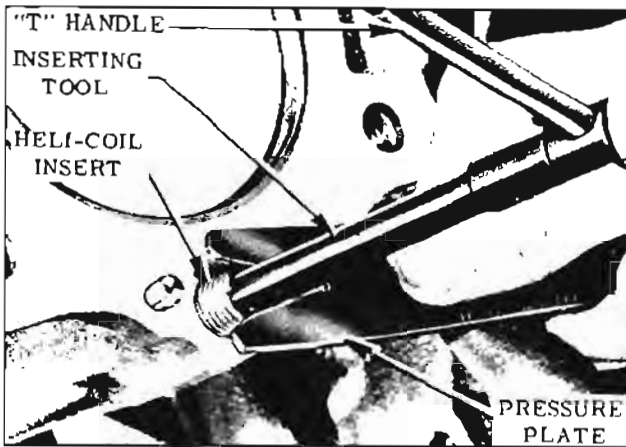

Fig. 8-158 Installing Insert
- c. While maintaining pressure on the insert, turn it clockwise into the hole to engage the first 2 or 3 threads. DO NOT APPLY PRESSURE WITH THE INSERTING TOOL. Remove the pressure plate and continue the installation until the insert is 1/4 to 1/2 turns below the surface. (Fig. 8-158)